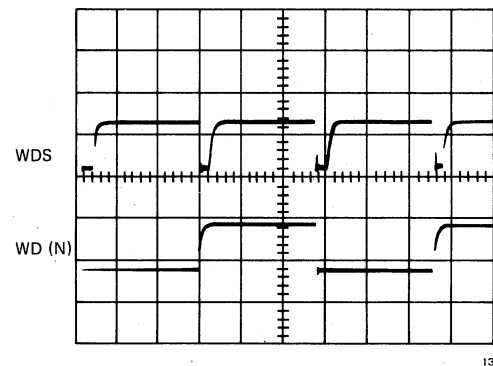

Figure 6-37 Write Data at Input to Write PCBA
17. If any of the nine channels look significantly different, trace the signal back to the MIA PCBA using Figure 6-32 as a guide. Figure 6-37 shows the waveshape for write data and a write data strobe entering the write PCBA.